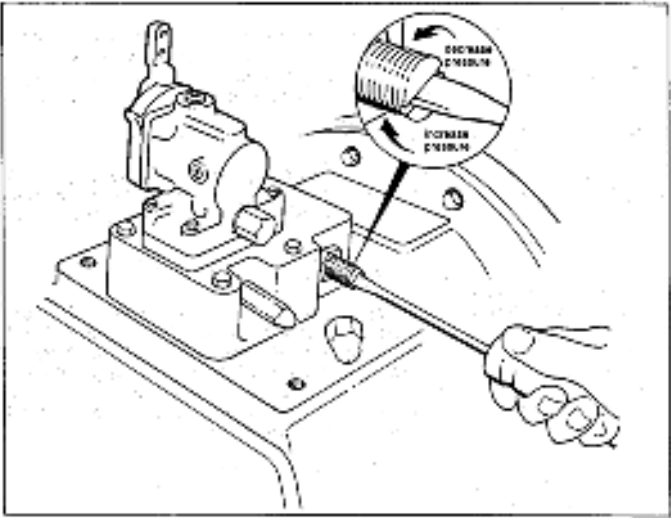

Fig. 17. Adjustment of oil pressure
Normally, unit pressure at idle start-up will be 180 PSI, but final adjustments must be made as noted above. See figure 17 below.
See fig. 17, page 10.
At periodic intervals record pressure readings at idle speed, a gradual decline is normal. Readjust pressure relief valve to maintain proper operating pressures. See fig. 17, p.10.
5. Worn or incorrect adjusted pump assembly.	Refer to oil pump section (page 17) or fig. 17, p.10.